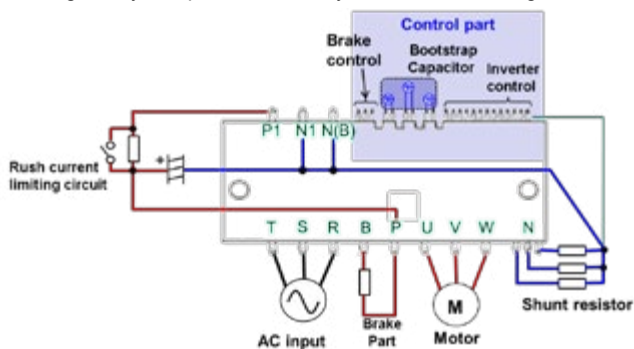

Figure 9: Pin terminal assignment of DIPIPM+™
D. The package size of DIPIPM+™ is about 35% reduced compared with today's state-of-the-art 1200V DIPIPM™. The well-organized pin out of the DIPIPM+™ permits using a low cost double layer PCB to ensure low inductive connection of the power stage to the DC-link capacitor. Furthermore, the Dual-In-line structure itself enables an easy signal and power terminals separation at the PCB (see Figure 9) thus allowing a very compact and thereby low cost PCB-design.